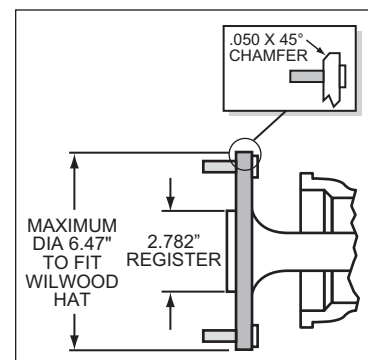

Figure 3. Axle Flange Maximum Dimension
- Maximum axle flange diameter must be no larger than 6.47" w/.050" x 45° chamfer (Figure 3).